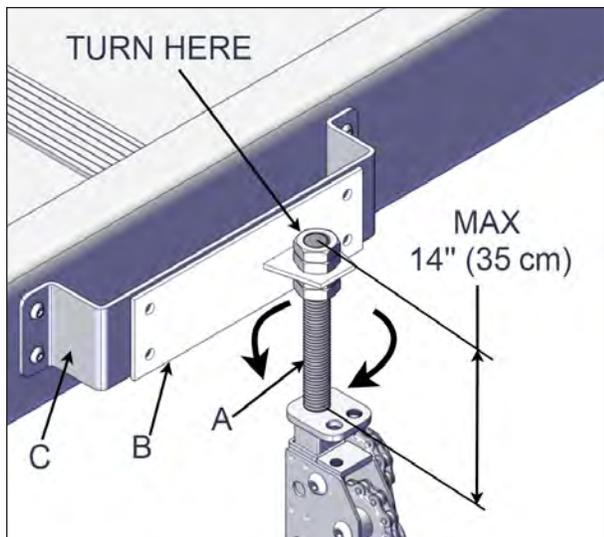

FIGURE 97: THREADED ROD ADJUSTMENT
14. The jack adapter located at the top of the jack can be adjusted by turning the threaded rod on the top of the jack. Adjust the height so that they match the cover mount bracket holes. Use the adjustable wrench 15/16" (24 mm) head. Repeat this step for all four jacks (Figure 97).
The threaded rod must not be unscrewed more than 14" (35 cm). (Measure the length from the top of the threaded rod nut to the top of the bottom nut see Figure 97.)